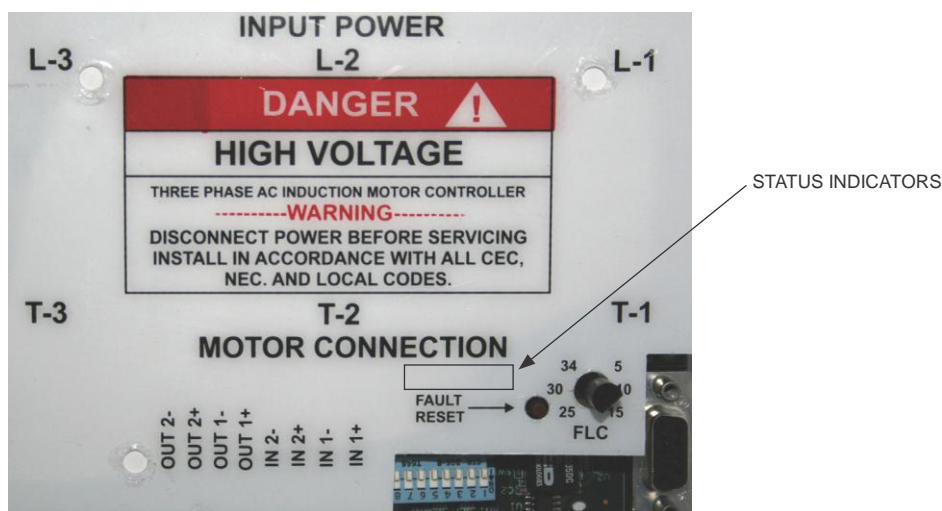

Figure 7 - Location of Status Indicators
- The location of these status indicators is shown in Figure 7.